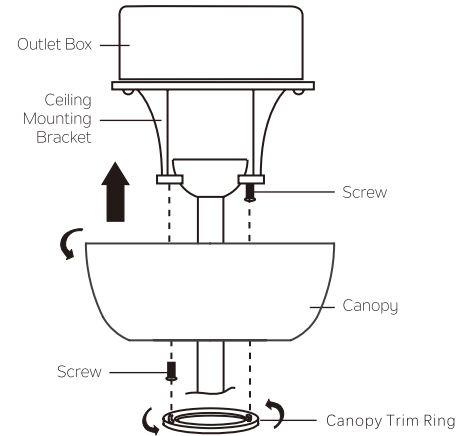

Fig. 14
Step 2. Slide the canopy up to the mounting bracket and place one of the key hole slots over the mounting screw on the mounting bracket. Rotate the canopy until the screw head locks in place at the narrow section of the key hole. See figure 14.
**NOTE:** Adjust the canopy screws as necessary until the canopy and canopy trim ring are snug. (Fig. 14)